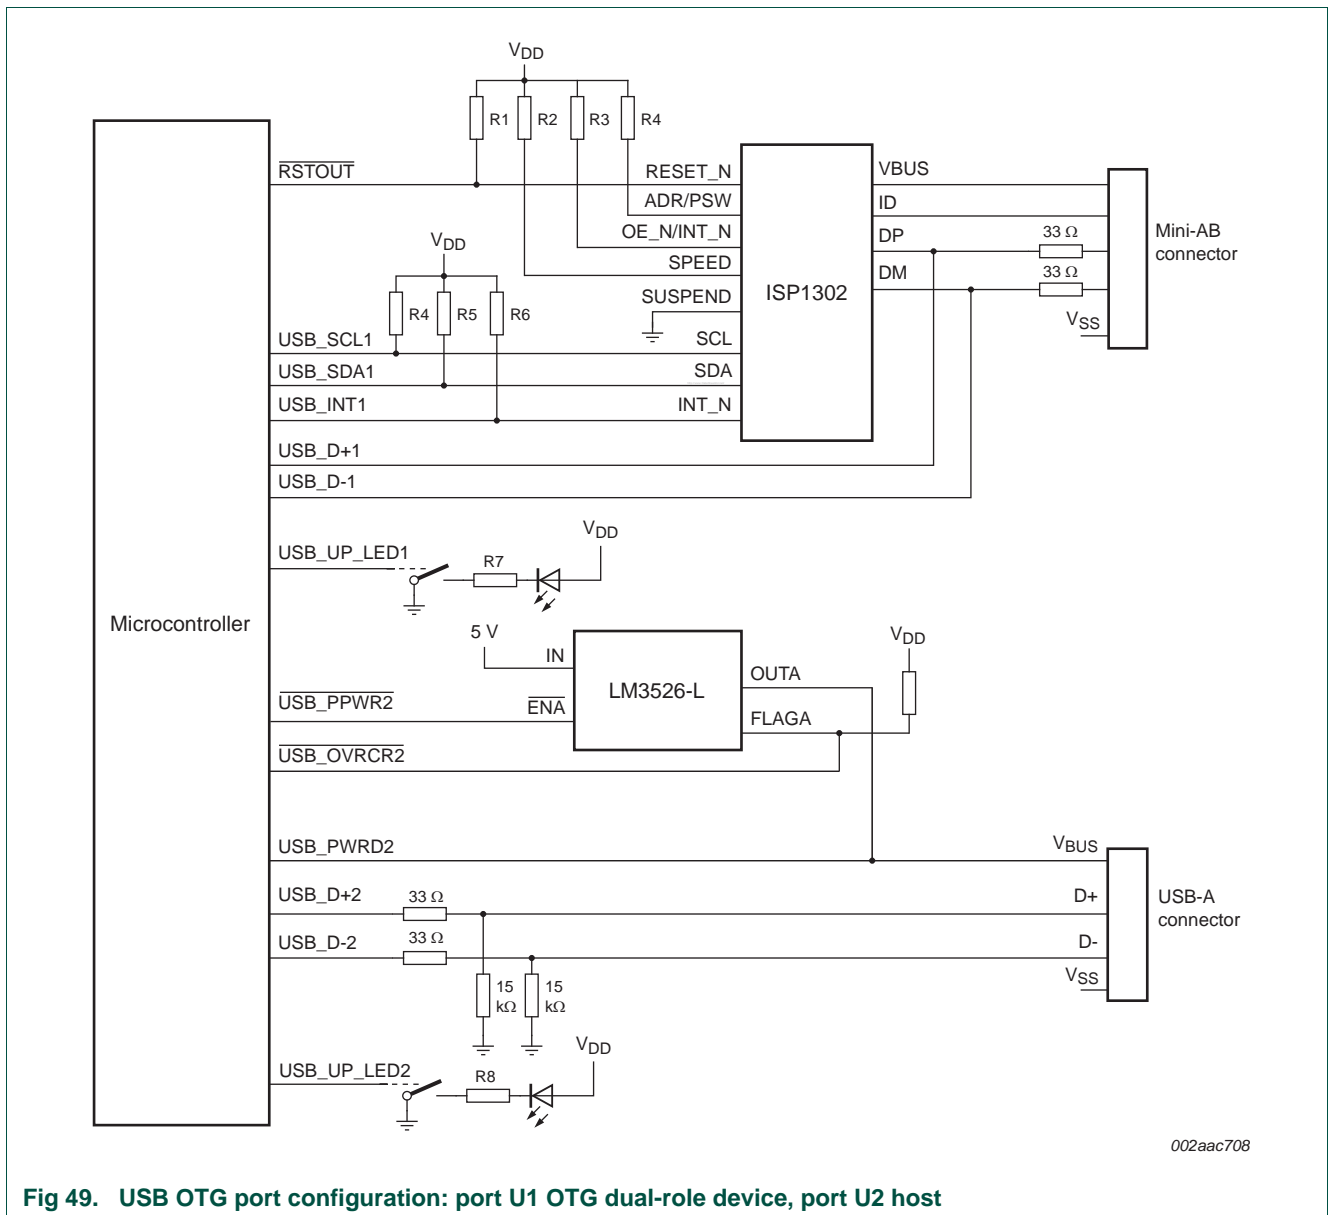
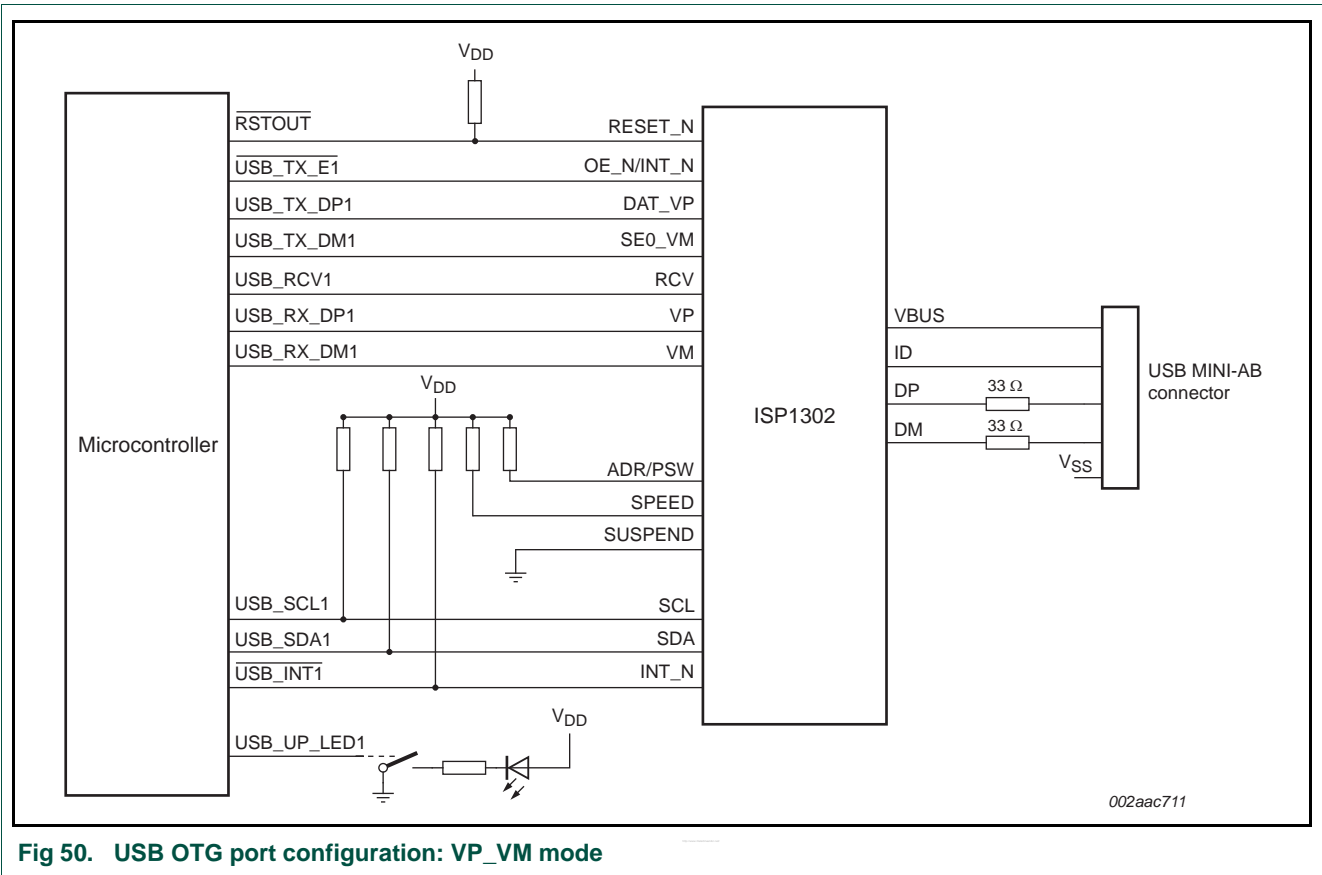

Fig 49. USB OTG port configuration: port U1 OTG dual-role device, port U2 host
Fig 50. USB OTG port configuration: VP\_VM mode
- One dual-role OTG port and optionally another Host port (see Figure 49 and Figure 50)
1. Use the internal USB transceiver for USB signalling and use the external OTG transceiver for OTG functionality only (see Figure 49). This option uses the internal transceiver in VP/VM mode.
2. Use the external OTG transceiver in VP/VM mode for OTG functionality and USB signalling (see Figure 50).